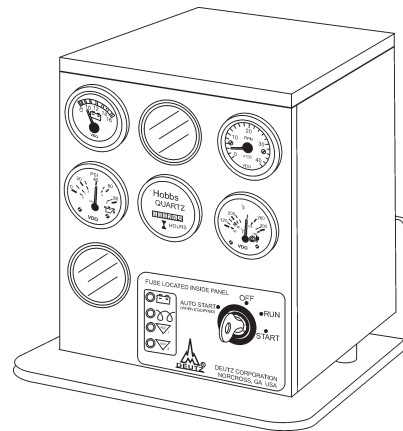

Figure 9. Control Box (New Style)
1. Insert ignition key into the ignition switch located on the control box (Figure 9)